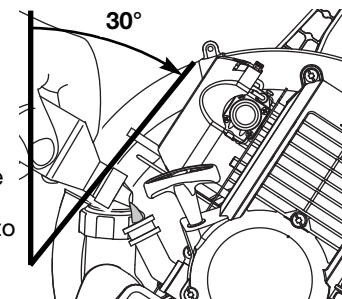

Fig. 12
3. Tilt the unit 30° to the side (Fig. 12).
4. Pour the entire bottle of oil into the oil fill hole (Fig. 12).